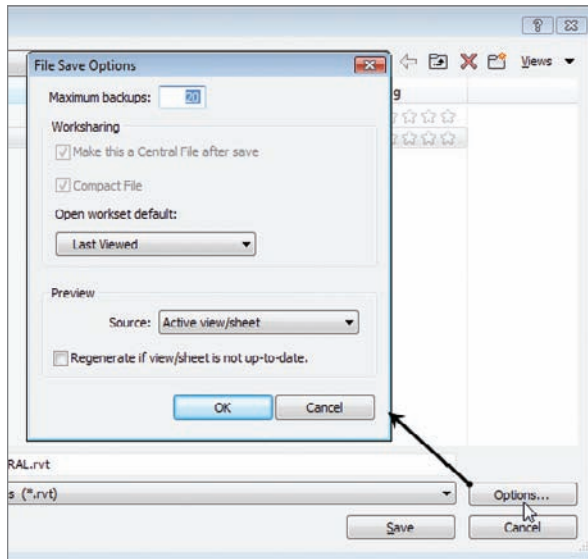

FIGURE 22.6 Modifying the settings before you save the central file
3. In the File Save Options dialog, change the Maximum Backups to 1 (see Figure 22.6).